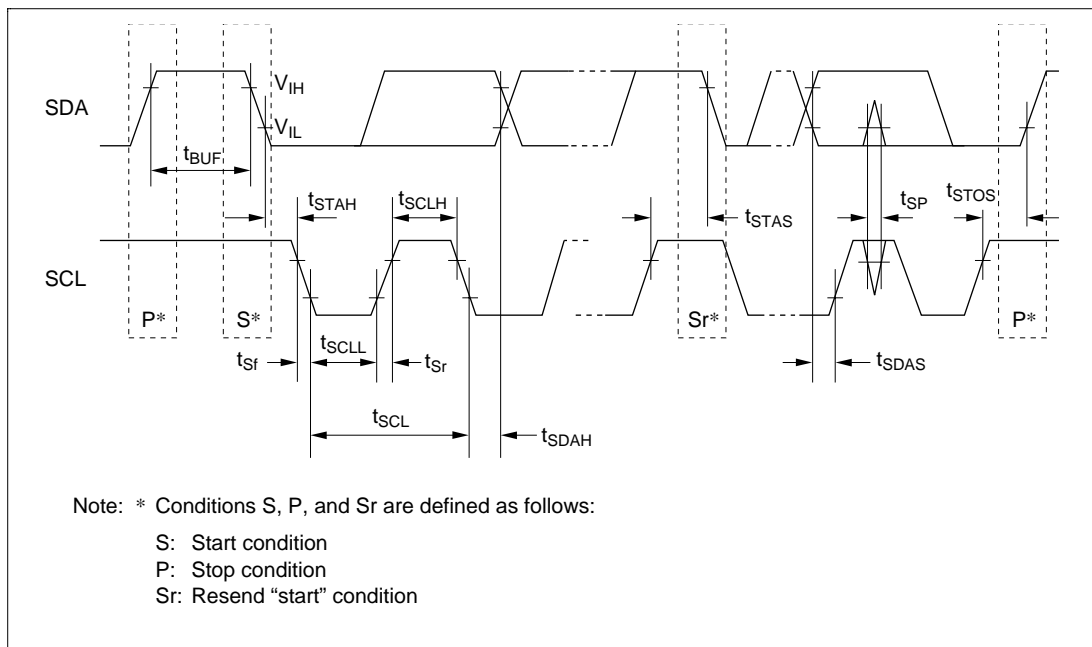

Figure 23.24 I²C Bus Interface I/O Timing
23.5.9 I ² C Bus Timing	Figure 23.24